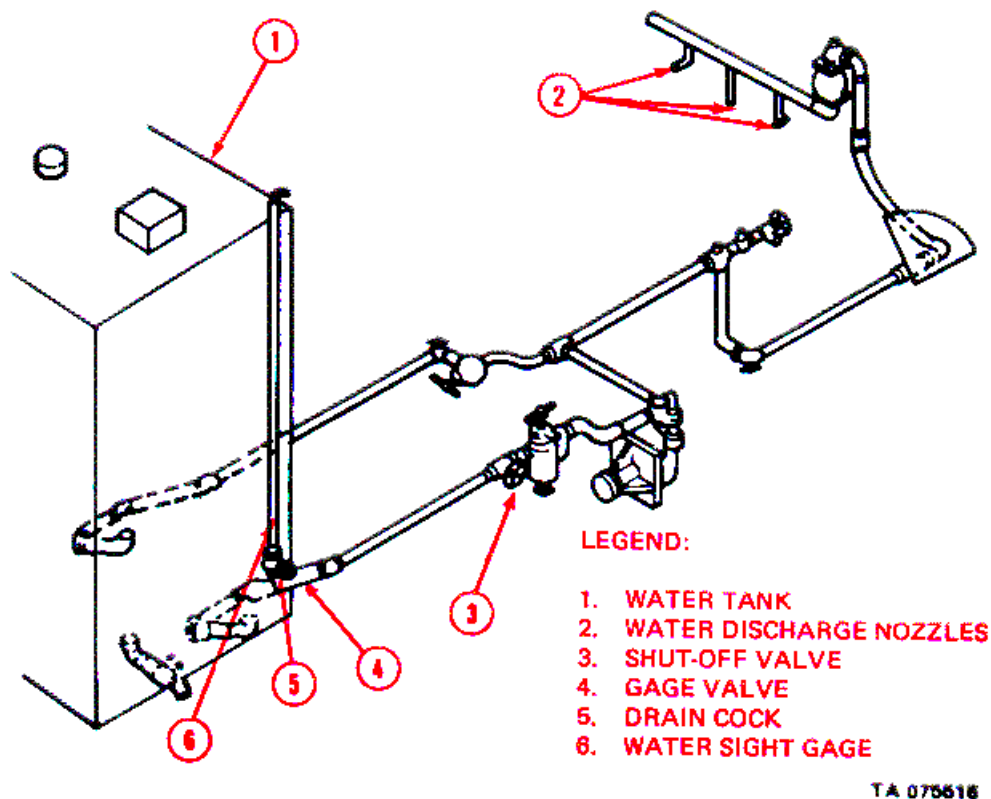

Figure 2-51. Water System.
- (1) Water System.
- (c) When water is being loaded into the water tank (1, fig. 2-51), the shut-off valve (3) shall be closed. Close gage valve (4) with the drain cock (5) open. The shut-off valve (3) and the gage valve (4) shall remain closed while enroute to the job site.
- (d) On arrival at the job site, the shut-off valve (3) shall be fully opened. If the water has frozen in the lines ahead of the shut-off valve, use a small heating torch and warm up all water lines, valves, and pump between the water shut-off valve and the water discharge nozzles (2). When all water lines are warmed sufficiently to prevent flash icing (above 40°F (4.50°C)), the frozen lines between the water tank and the shut-off valve shall be heated until water is flowing freely to the water discharge nozzles. Gage valve (4) shall remain closed at all times during sub-freezing weather to prevent the water sight gage (6) from freezing or rupturing.
(2) Cement System.